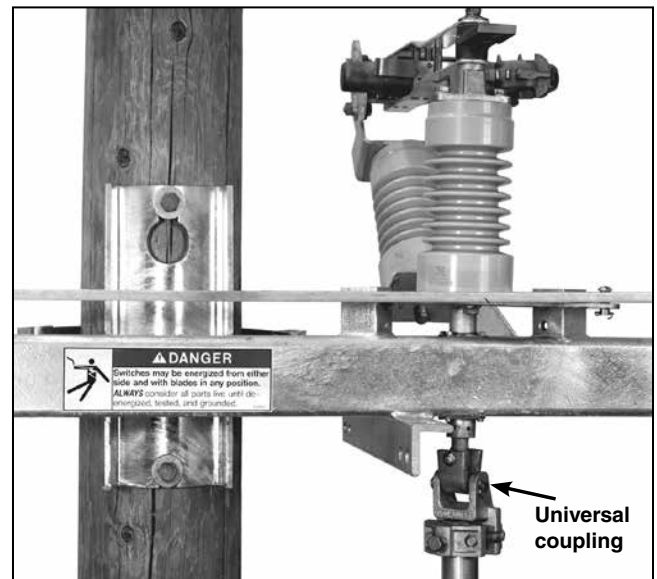

Figure 15. Install the uppermost section of the vertical operating pipe.
STEP 13. Insert the uppermost section of the vertical operating pipe into the universal coupling attached to the underside of the switch assembly. See Figure 15. Make certain the cutting tip of the piercing set screw does not protrude through the body of the pipe-coupling clamp.